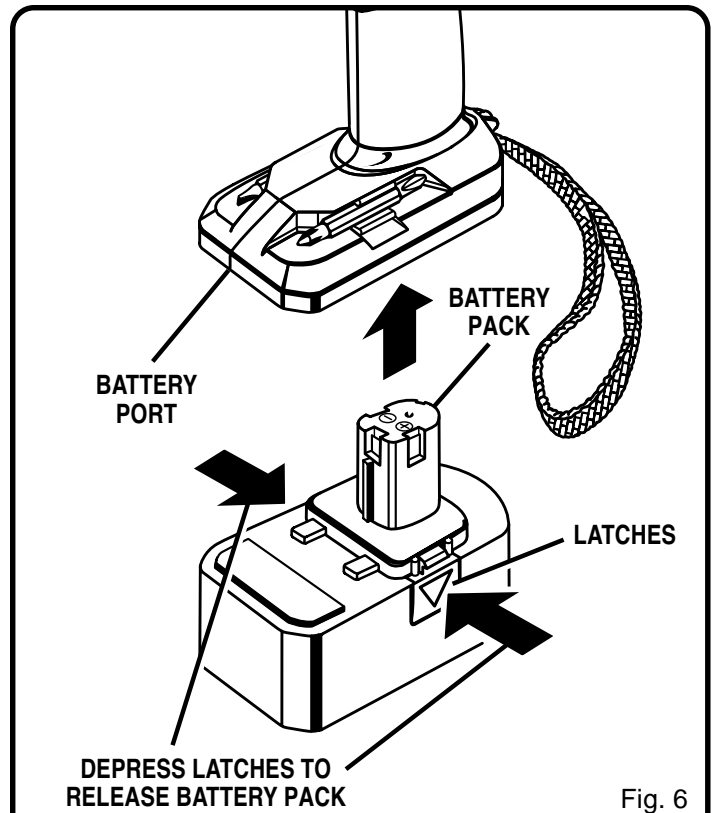

Fig. 6
- Place the battery pack in your drill. Align raised rib on battery pack with groove in drill's battery port. *See Figure 6.*
- Locate latches on side of battery pack and depress both sides to release battery pack from drill. *See Figure 6.*